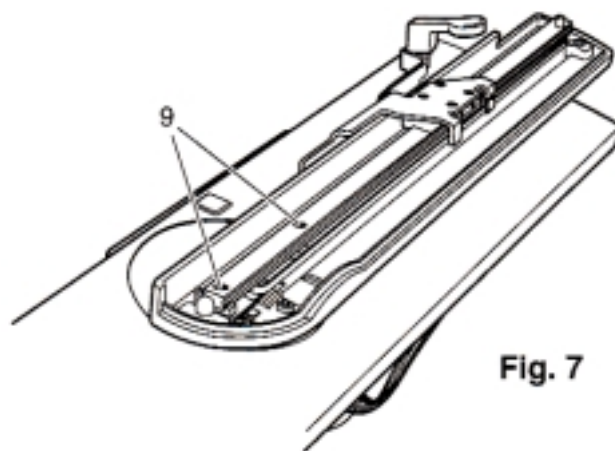

**Fig. 7**
2. Unscrew the two screws 9 of the linear guide (Fig. 7).